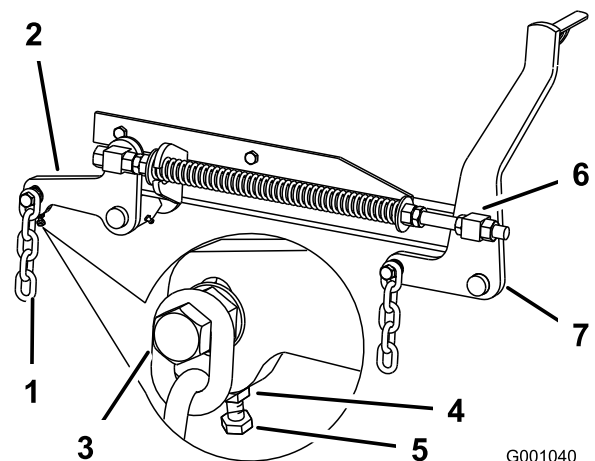

Figure 68
7. If the measurements at positions **B** or **C** are not correct, loosen the bolt attaching the rear chain to the rear support arm (Figure 68).
- Loosen the jam nut under the rear support arm and adjust the adjustment bolt to get a measurement of 3-1/8 to 3-1/4 inches (80 to 83 mm) (Figure 68).
- Loosen the front swivel jam nuts, at the front of the right and left swivels, approximately a 1/2 inch (13 mm) (Figure 68).
(6 to 10 mm) lower in front at **A** than in the rear at **B** (Figure 68).